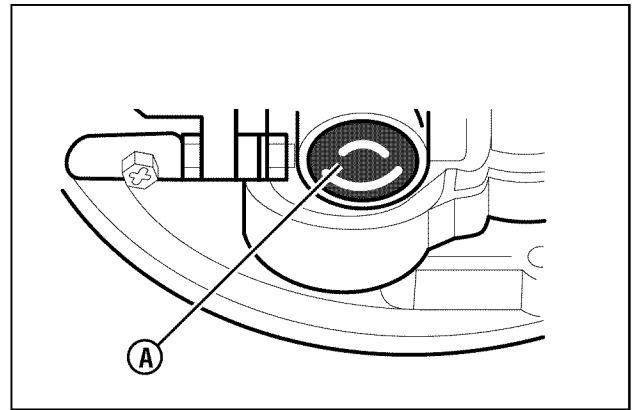

Figure 15: The engine primer button
5. The primer button (**A, Figure 15**) is on the side of the engine. Push the primer button. Every time you push the primer button, wait two seconds. For the number of times required to push the primer button, see the engine manufacturer's instructions.